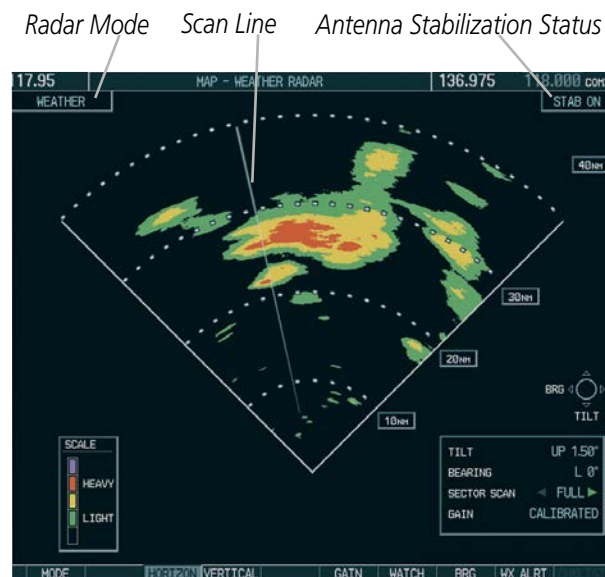

Figure 6-105 Horizontal Scan Display
- 5) The horizontal scan is initially displayed (Figure 6-105). If desired, press the **VERTICAL** Softkey to change to vertical scanning.